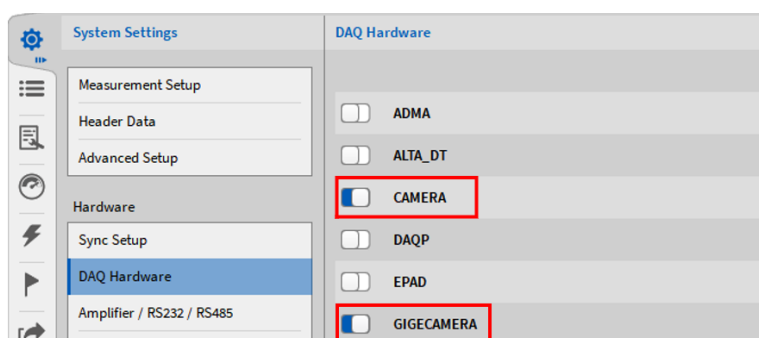

Fig. 8.89: Enabling the Camera Series and the GigE Camera series in the DAQ Hardware setup
**Note:** If the camera channel does not appear in the Channel List although a camera is connected to the measurement system, make sure that *CAMERA Series* for webcams or the *GIGECAMERA Series* for GigE cameras are enabled in the *DAQ Hardware* setup (see Fig. 8.89) in the *System Settings*.